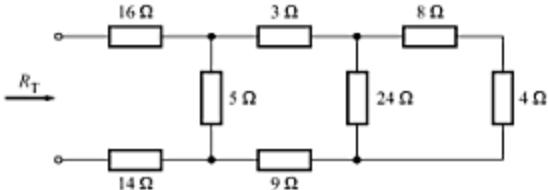

Fig. A-88
- A-50. Find the total resistance  $R_T$  of the resistor ladder network given in Fig. A-88.